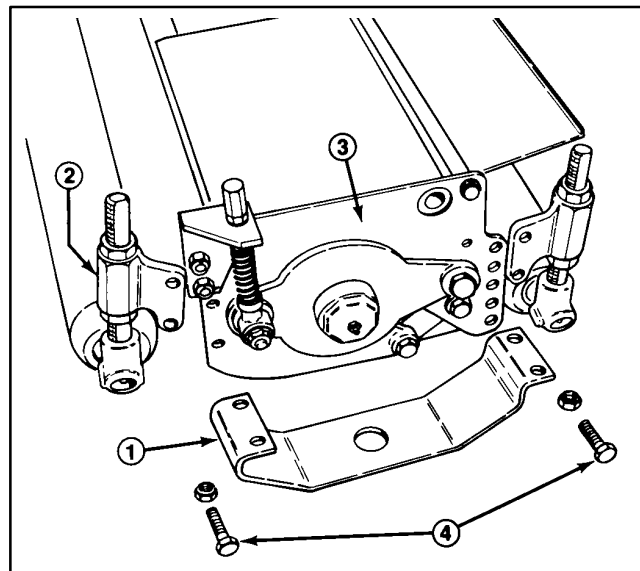

Figure 26
1. Remove roller adjustment housing from side plate (Fig. 26).
1. Install roller adjustment housing to the side plate (Fig. 26).